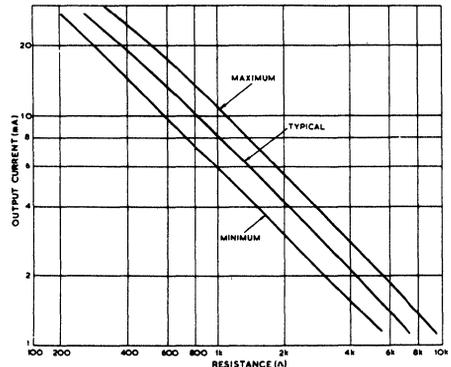

Fig. 2 Output current v. resistance between pin 2 and OV, assuming 5% tolerance on resistance
- This result holds for the source current in the range 1 to 10mA (pin 2) and this current is normally determined by a resistor from pin 2 to ground (see fig. 2).